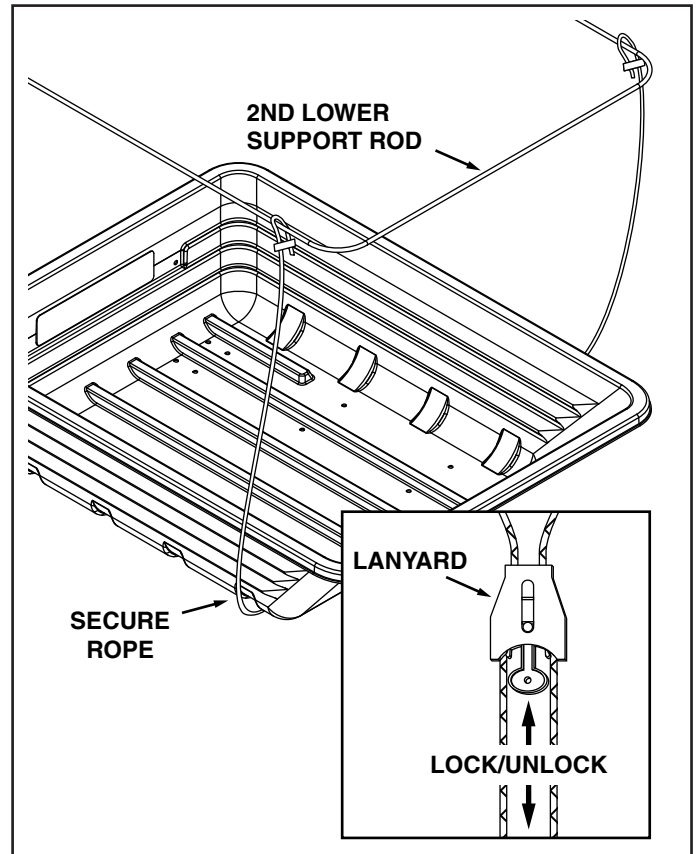

FIGURE 22
- Secure rope around bottom of cart. Use the lanyard to tighten rope until it firmly secures the cart cover to the cart. See figure 22.
- Ensure lanyard is locked to keep rope in place. See figure 22.